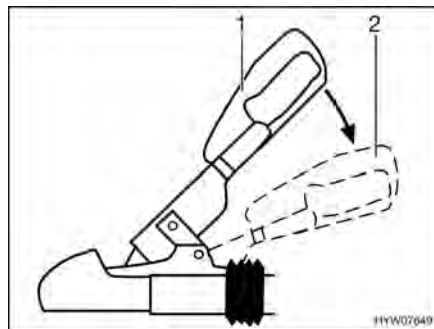

Fig. 99 Stabilising handle
- Activate the stabilising mechanism. To do this, press the coupling handle downwards (Fig. 99,2) from the closed position (Fig. 99,1) to its stop limit.